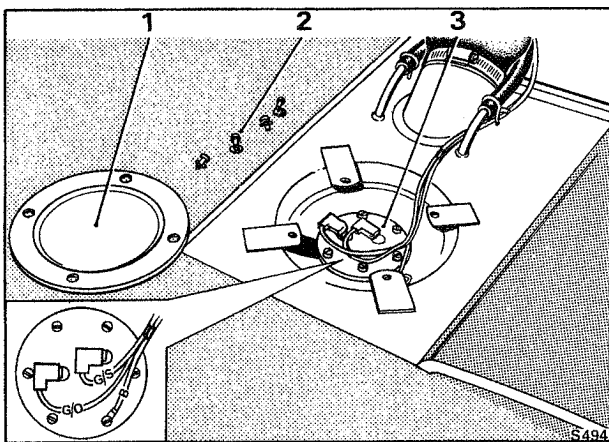

Fig. K4 Float assembly
6. Disconnect the three electrical leads from the float assembly (see Fig. K4); tape the loom away from the vicinity of the fuel tank.